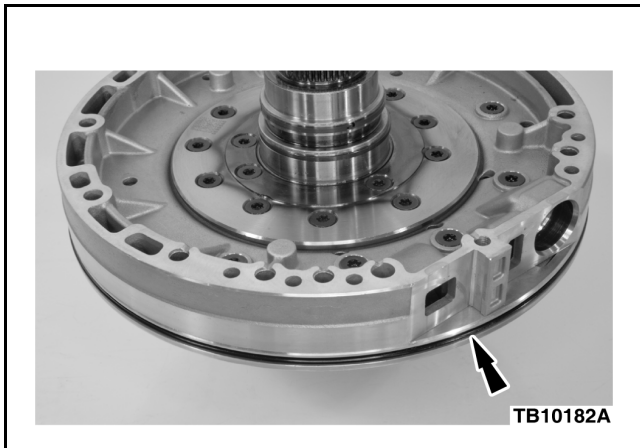

Figure 7 - Article 12-11-14
21. Install a new pump body outer O-ring seal. (Figure 7)